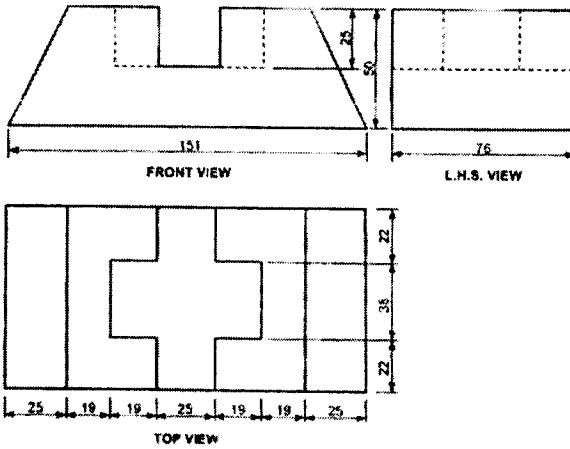

Fig. 2
7. Fig. 2 shows elevation, side view and plan of an object. Draw its isometric view using 1st angle projection. 14